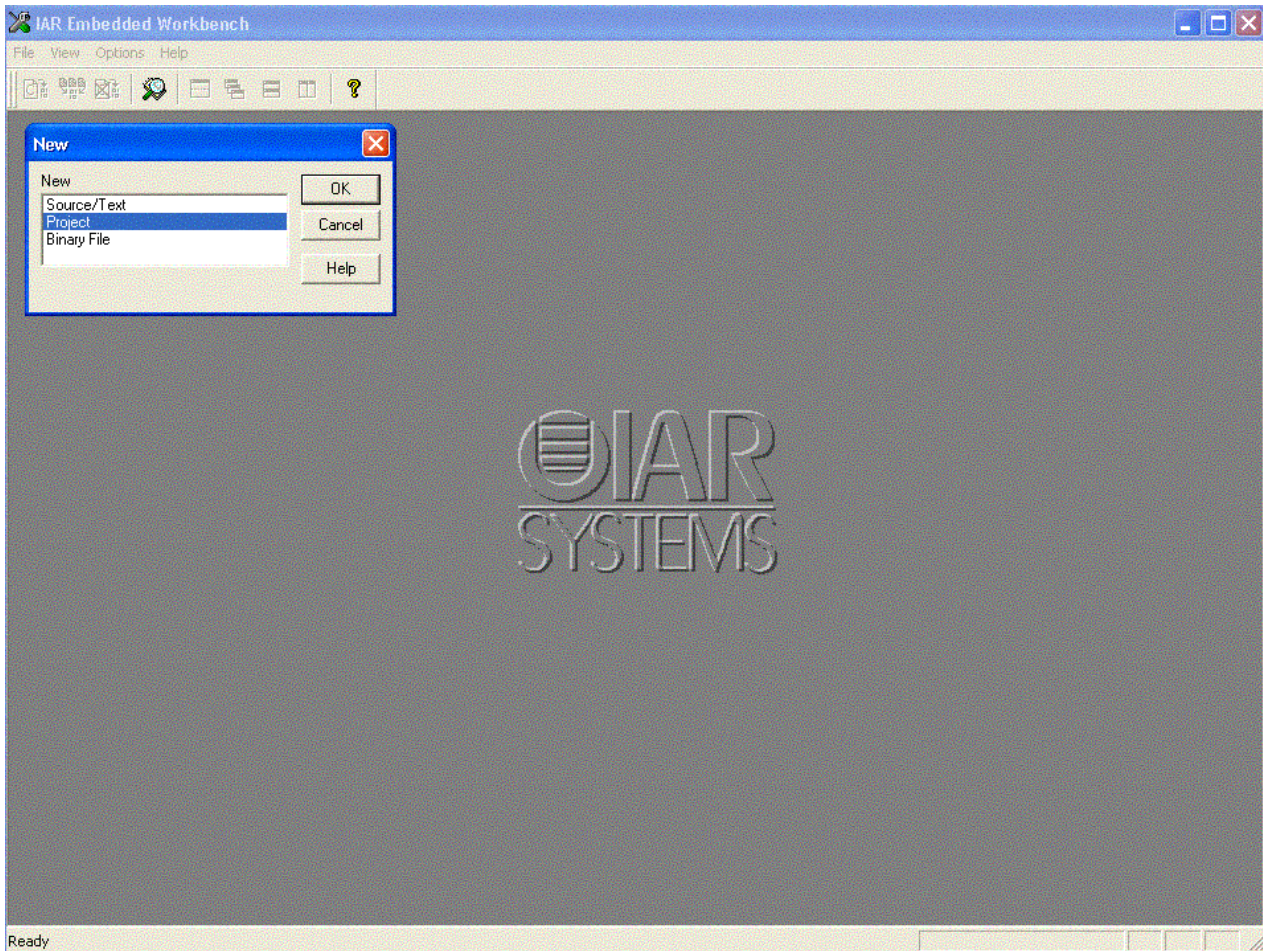

Figure 9: Showing procedure in building software, Step 3.
Step 3: Now click on **New** and you will see the screen shown in Figure 9 after you have highlighted **Project**.